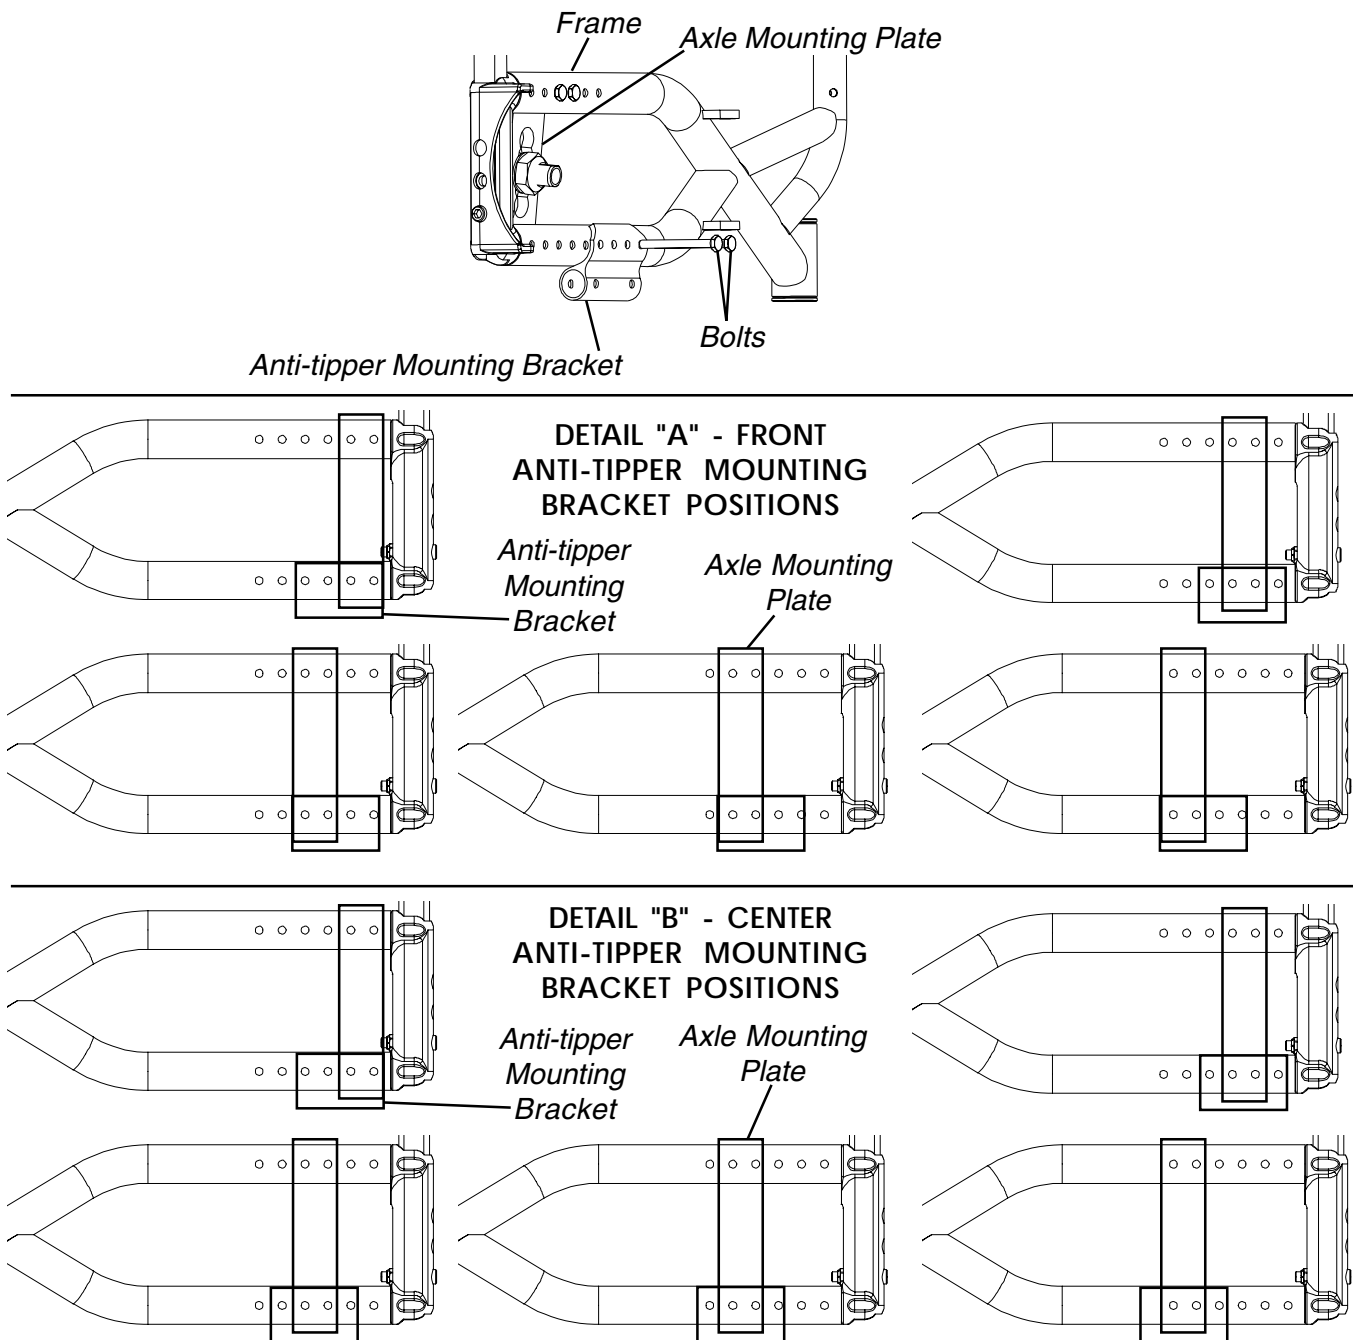

FIGURE 2 - INSTALLING/ADJUSTING ANTI-TIPPER MOUNTING BRACKETS
INSTALLING/ADJUSTING ANTI-TIPPER MOUNTING BRACKETS (FIGURE 2)
2. Refer to DETAILS "A" or "B" in FIGURE 2 to determine the location of the anti-tipper mounting bracket in relation to the axle mounting plate.